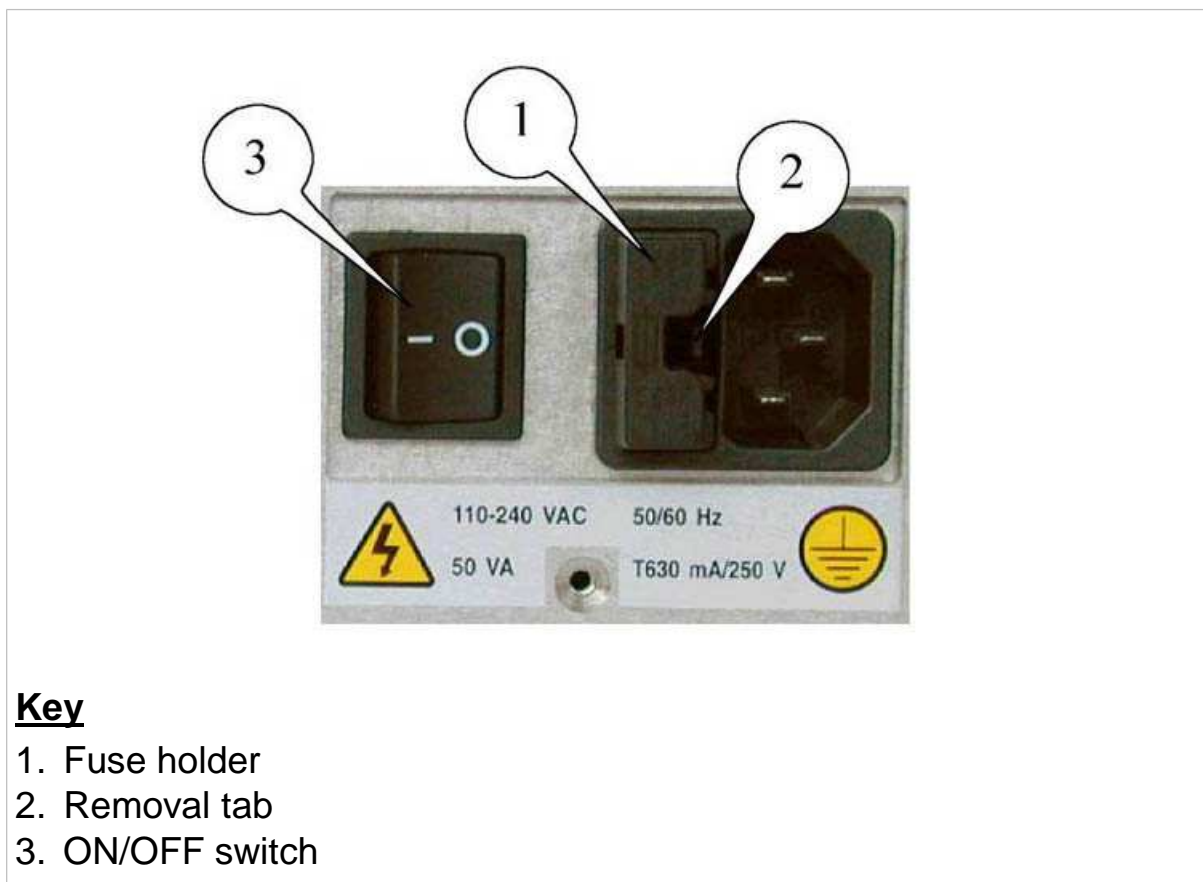

Figure 7.1 - Fuse (log0126.jpg)
- ☞ Refer to Figure 7.1 on page 1-77